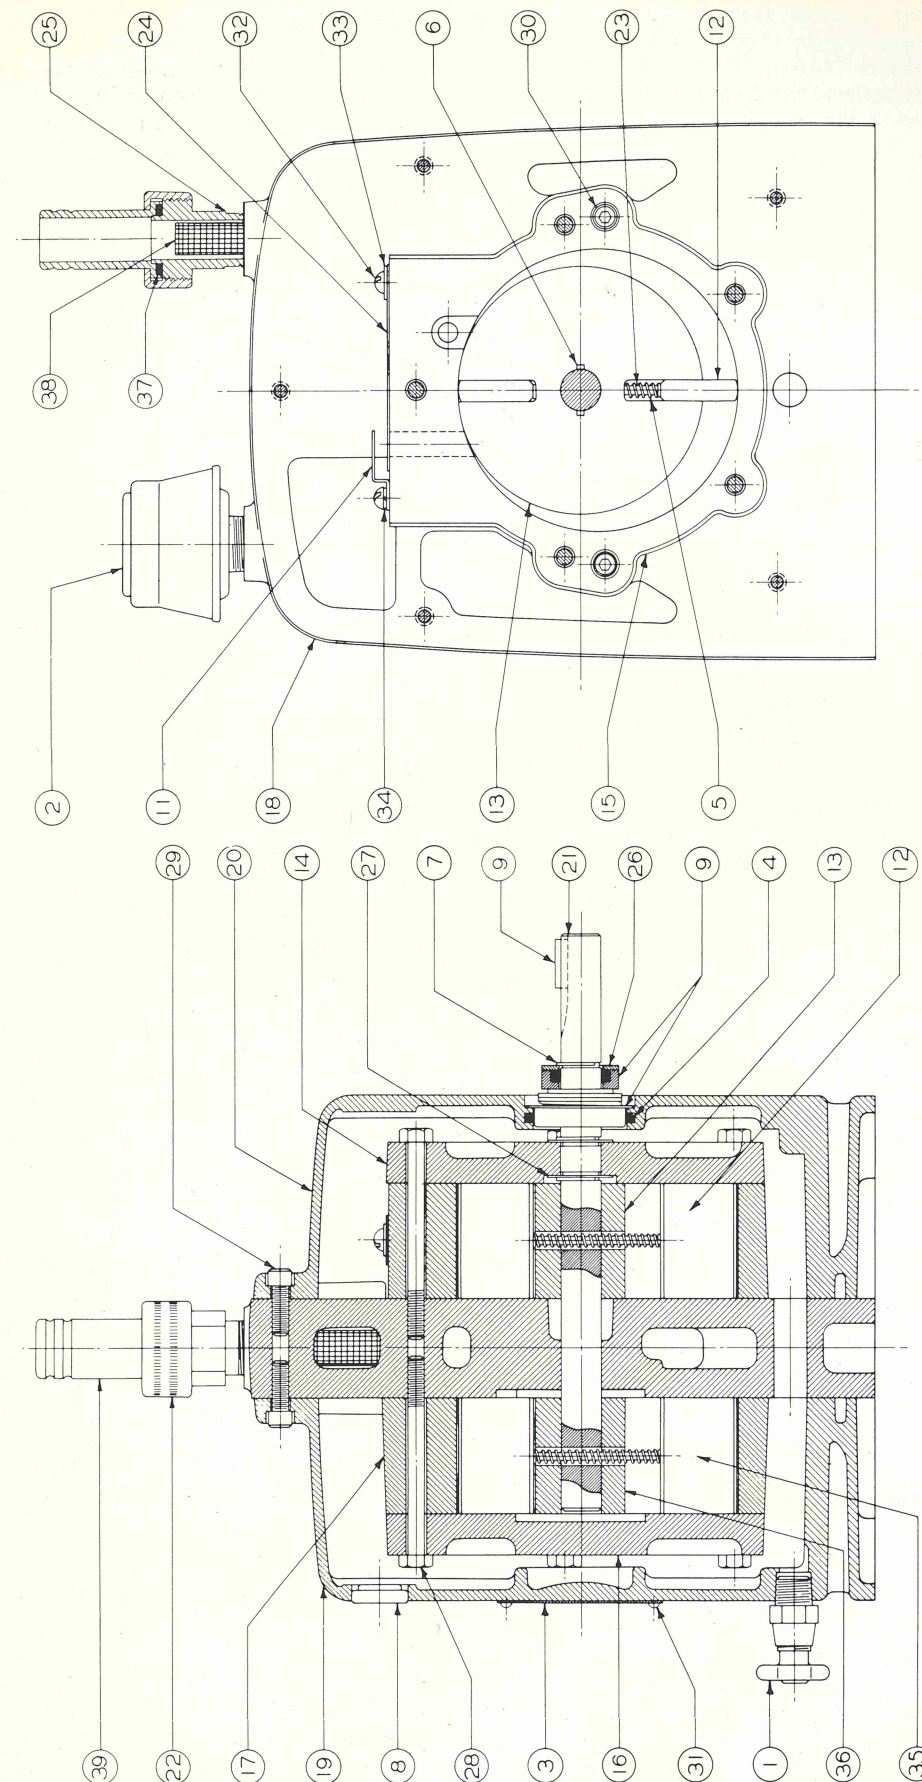

Fig. 4 Sectional View of Hyvac 2, 7, and 14
The seal on the pump shaft, symbol 21 in Fig. 4, consists of a "Truarc" ring, (7), a thrust washer (26), a shaft seal (9), and an "O" ring, (4). Remove the "Truarc" ring, the thrust washer, the shaft seal, and finally the "O" ring, in this order. Before assembling or making a replacement, apply a thin film of pump oil to the pump shaft. Also apply the same amount of oil to the inner surface of the shaft seal. Replace the shaft seal carefully so as not to damage the inner surface of the rubber seal ring. Push the seal back into the cavity until it contacts the "O" ring. Replace the thrust washer, and force the washer and spring over the groove in the shaft. Finally, replace the "Truarc" ring.
Fig. 4 shows cross sectional views of the Hyvac Pump. Fig. 5 shows an exploded view of the pump and all its components. Paragraph 5.1 lists the part number for each component of the pump. When ordering replacement parts, please give the exact part number. For repairs to the pump other than the replacement of the shaft seal, it is strongly recommended that the pump be returned to the factory, especially when adequate shop facilities are not available.